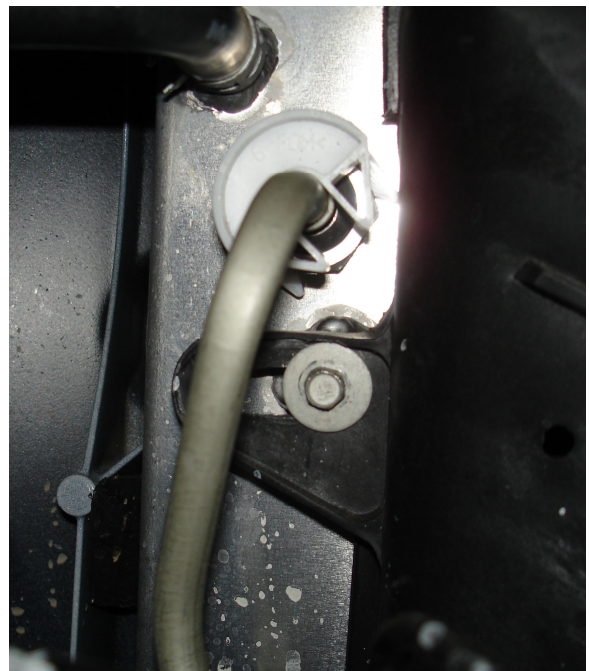

Figure 22
- Secure the upper tabs of the shroud to the radiator with the stock bolts, and **torque to 53 in-lb** (driver's side shown Figure 22)